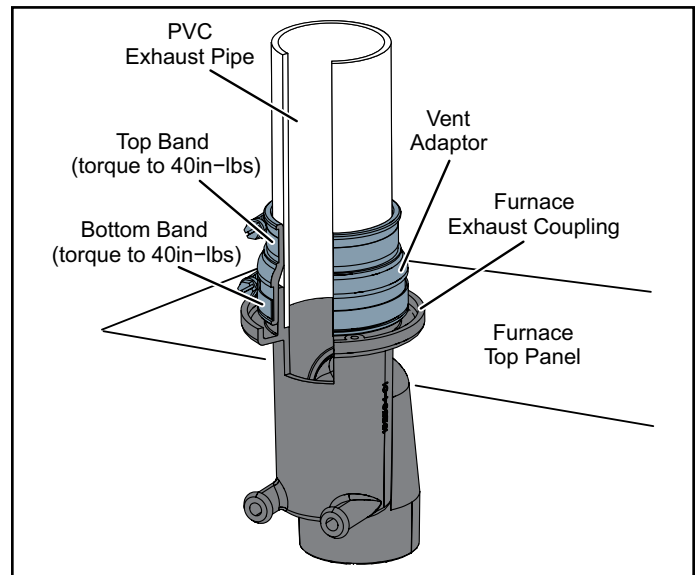

Figure 19. Vent Adaptor to Exhaust Coupling
NOTE: Exhaust coupling must be installed with provided appliance adapter. See Figure 19.
- Tighten both top and bottom bands to 40 in lbs. See Figure 19.